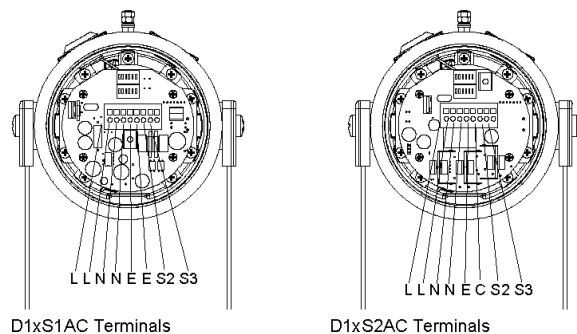
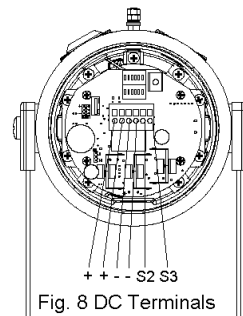

Fig. 6 AC Terminals
Fig. 8 DC Terminals
- Fit an M20/NPT suitably rated cable gland or conduit entry into the hole in the enclosure and connect the field wiring to the appropriate alarm horn terminals as shown in fig. 6 (AC) or fig 8. (DC). The power supply terminals are duplicated so that units may be connected in parallel. An end of line monitoring resistor may be fitted to DC units only (see section 12). If the second and third M20/NPT entries are not used, suitably rated stopping plugs must always be fitted.
Stage one (S1) operation: Simply connect the supply voltage to the L and N supply terminals, (see fig. 6).
Stage one (S1) operation: Simply connect the supply voltage to the + and - supply terminals, (see fig. 8).